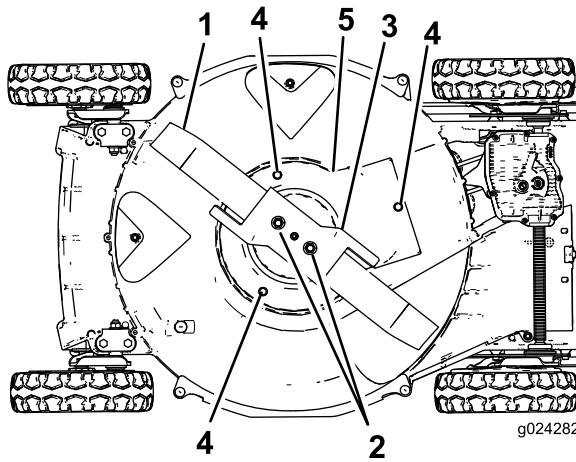

Figure 38
6. Remove the 2 blade nuts, the accelerator, and the blade (Figure 38).
7. Remove the screws that secure the blade-brake-clutch shield to the mower housing (Figure 38).